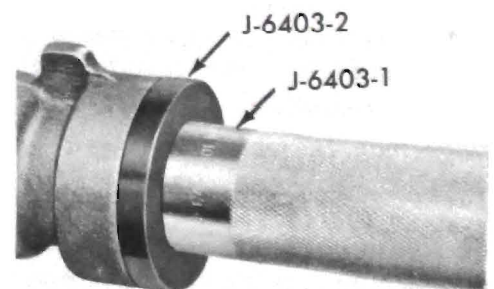

Figure 72-416 - Installing Extension Oil Seal
2. Coat I.D. of bushing with transmission oil and new seal with sealing compound and start straight in bore of case extension. Using installer J-6403-1 and J-6403-2 tap seal into extension case. See Figure 72-416.